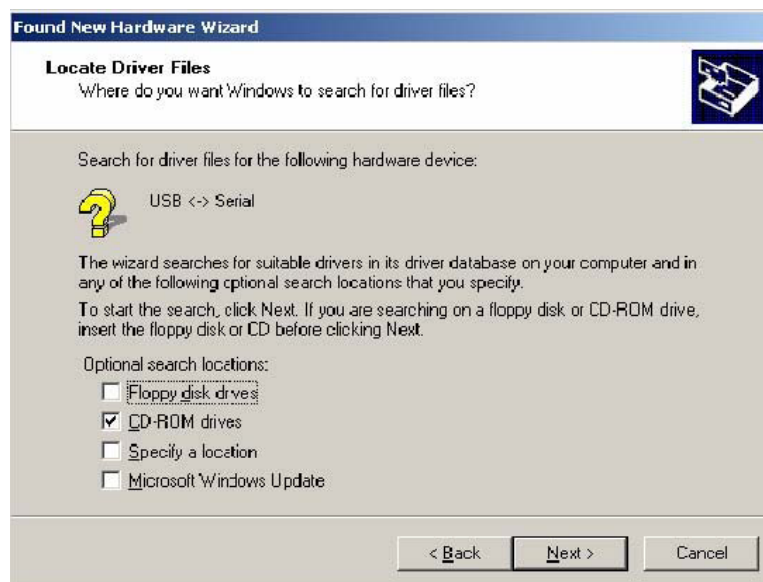

Figure 8
2. Select the **CD-ROM drives** check box, clear all other check boxes, and then click **Next** (Figure 8).